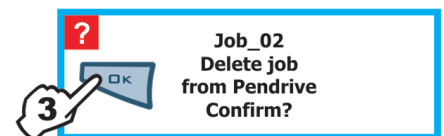

Fig. 71
- 3 The message shown in Fig. 71 is displayed: confirm deletion by pressing **OK**.